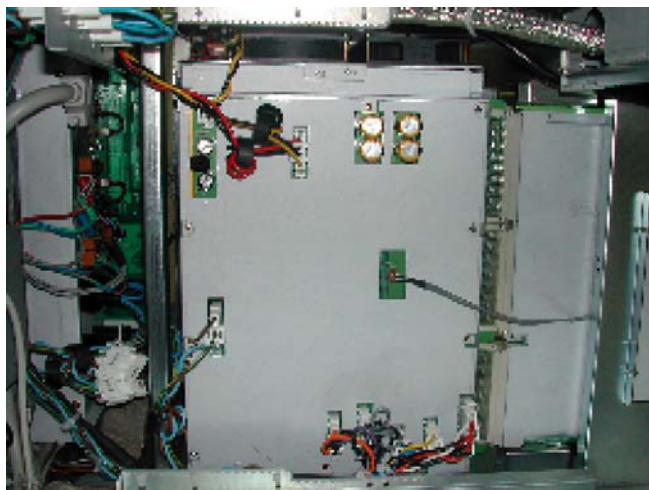

Figure 8-93 Disconnect 8 connectors from the left
- 4.) From the left view, disconnect eight connectors from the Backplane Assy. Refer to Figure 8-93 on page 8-72 ..